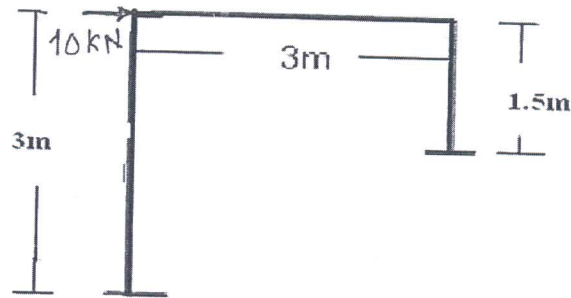

Fig. 7
- (b) The frame loaded with a point load of 10 kN with both supports fixed is as shown in Fig. 7. Determine the values of plastic moment of the frame when loaded up to collapse. [9]